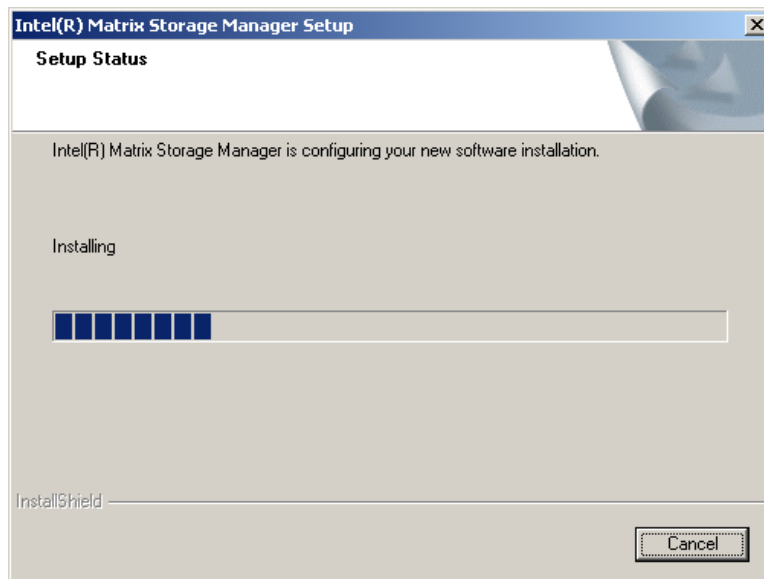

Figure 6-29: Matrix Storage Manager Setup Screen
Step 7: Figure 6-29 shows the **Matrix Storage Manager** software configuring the installation process.